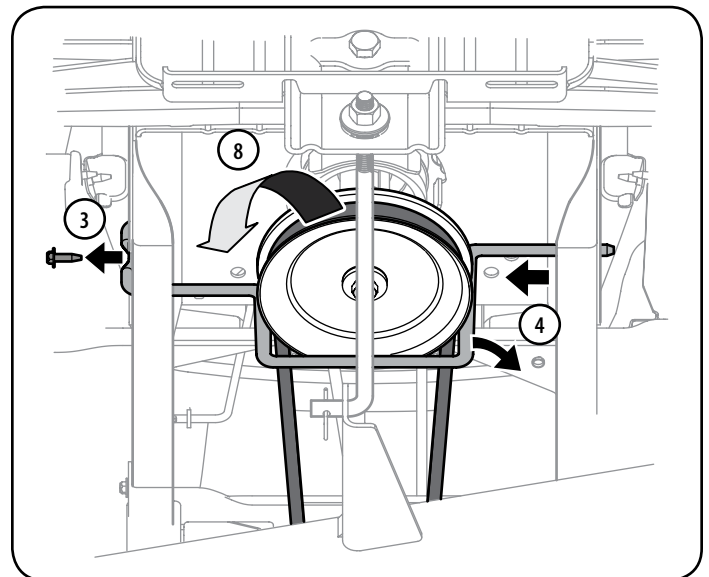

Figure 22
- c. Remove the hex screw securing the engine pulley keeper rod to the frame. See Figure 22.
- d. Slide the rod to the right to remove it. See Figure 22.